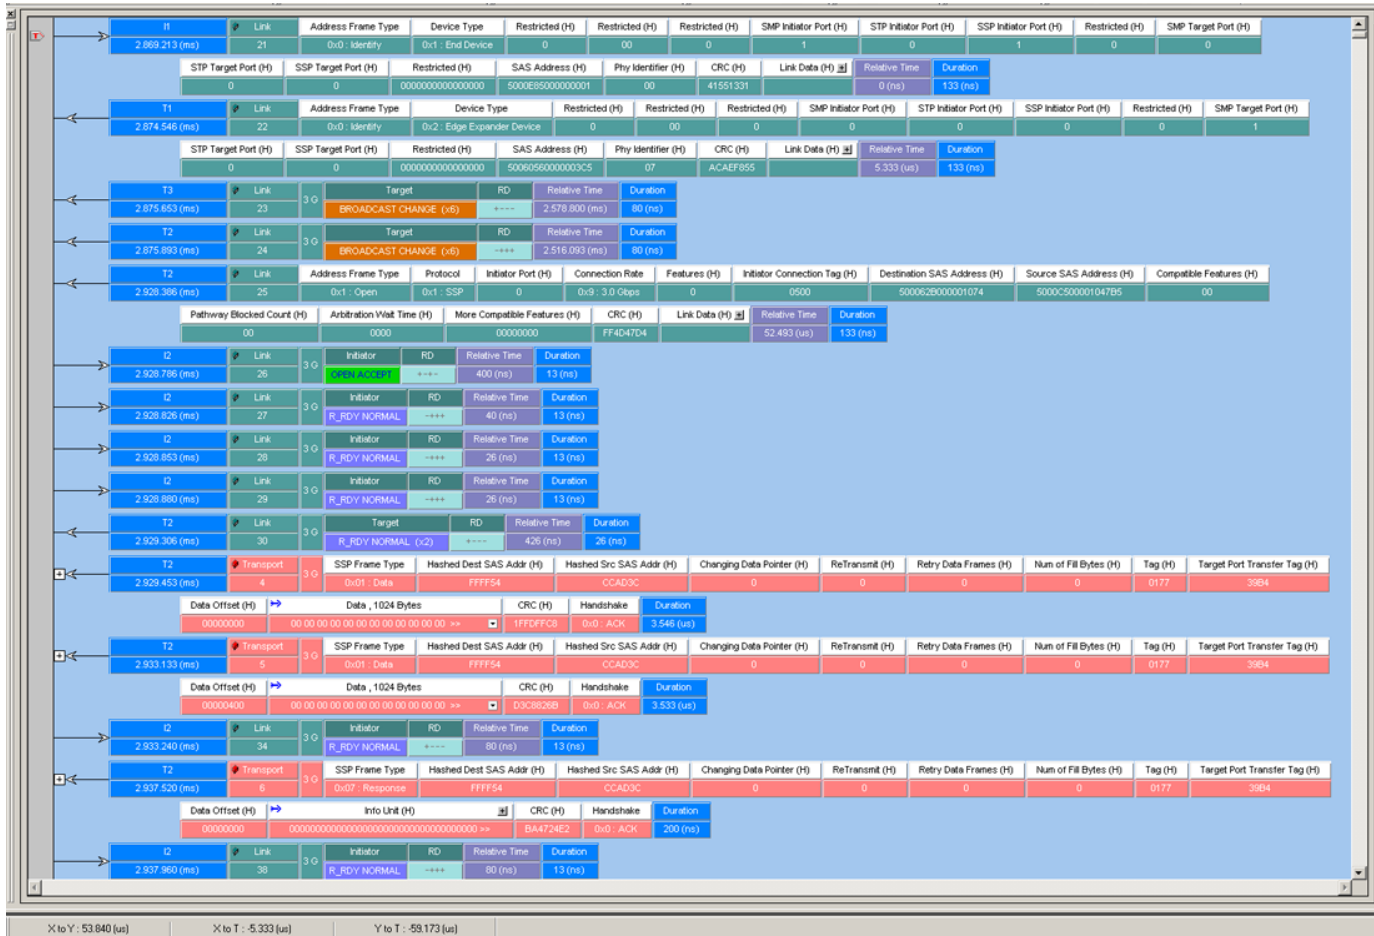

Figure 2.16: SAS: Analyzer Trace Capture Display
5. After the project runs, you see an analyzer trace capture display similar to the one shown in Figure 2.16